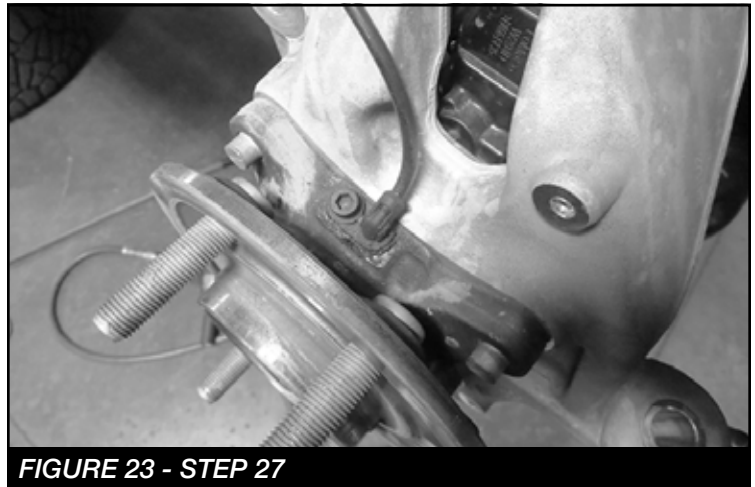

FIGURE 23 - STEP 27
27. Reinstall the ABS sensor into the factory knuckle using the factory hardware. Torque to 7 ft-lbs. **SEE FIGURE 23**